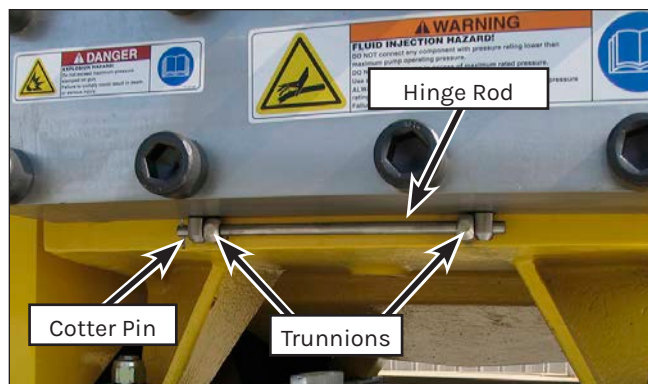

Figure 61: Hinge Rod, Trunnions, and Cotter Pin.
6. Remove the cotter pin (Figure 61) from the hinge rod and remove the rod.